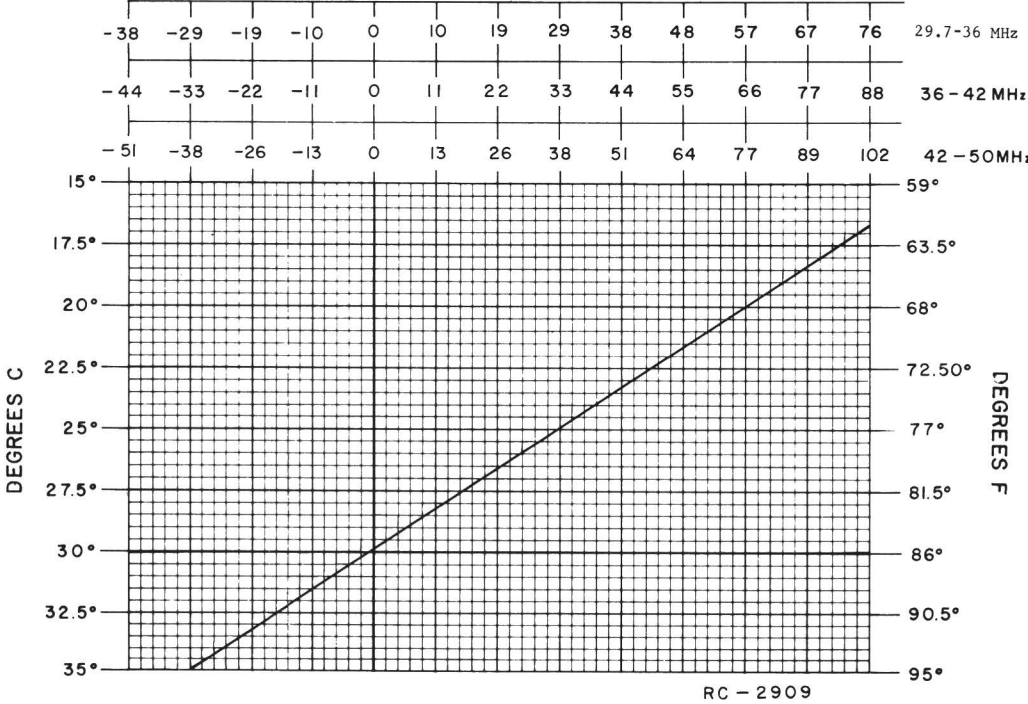

Figure 3 - Frequency Characteristics Vs. Temperature
First, check the frequency to determine if any adjustment is required. (Refer to frequency offset chart, Figure 3). The frequency measurement requires equipment with an absolute accuracy that is 5 to 10 times better than the tolerance to be maintained. When adjusting the frequency, the entire radio should be as near as possible to an ambient temperature of 60°C (167°F).
To set crystal frequency using "beat frequency" method, the temperature should be at 30°C (86°F). If the temperature is not 30°C, then offset the "ON FREQUENCY" signal (at the receiver input), as a function of actual temperature, by the frequency ERROR FACTOR shown in Figure 3.
- 2. Maintain the radio at 30°C (±5°C, ±10°C) and offset the oscillator, as a function of actual temperature, by the frequency error shown in Figure 3.